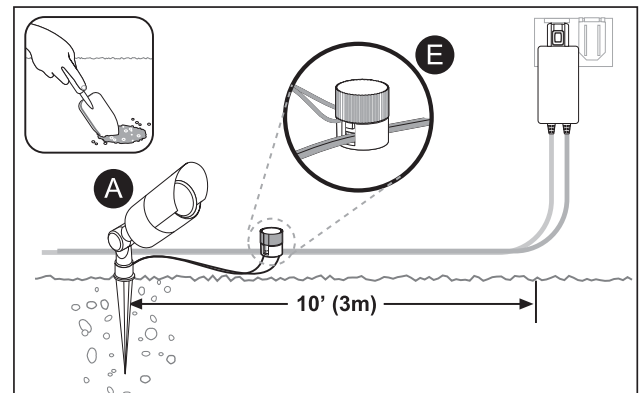

Fig. 2
2. To install, loosen the ground with a shovel and/or soften the soil with water, then press the fixture into the ground. Do not use a hammer. Do not exert excessive force on the lamp head (A) of the fixture while installing as this may cause the fixture to break. Attach the fixture to the power cable with the quick connector assembly (E) as shown below. To insure uniform brightness the first fixture should be a minimum of 10 wire feet (3 meters) from the transformer (Fig. 2).